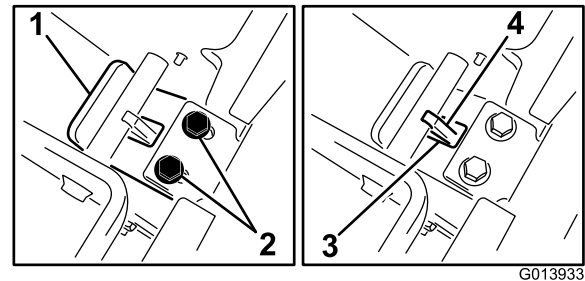

Figure 15
5. While maintaining the pressure on the back plate, slide the tongue toward you until the lip of the tongue plate contacts the crossbar (Figure 15).